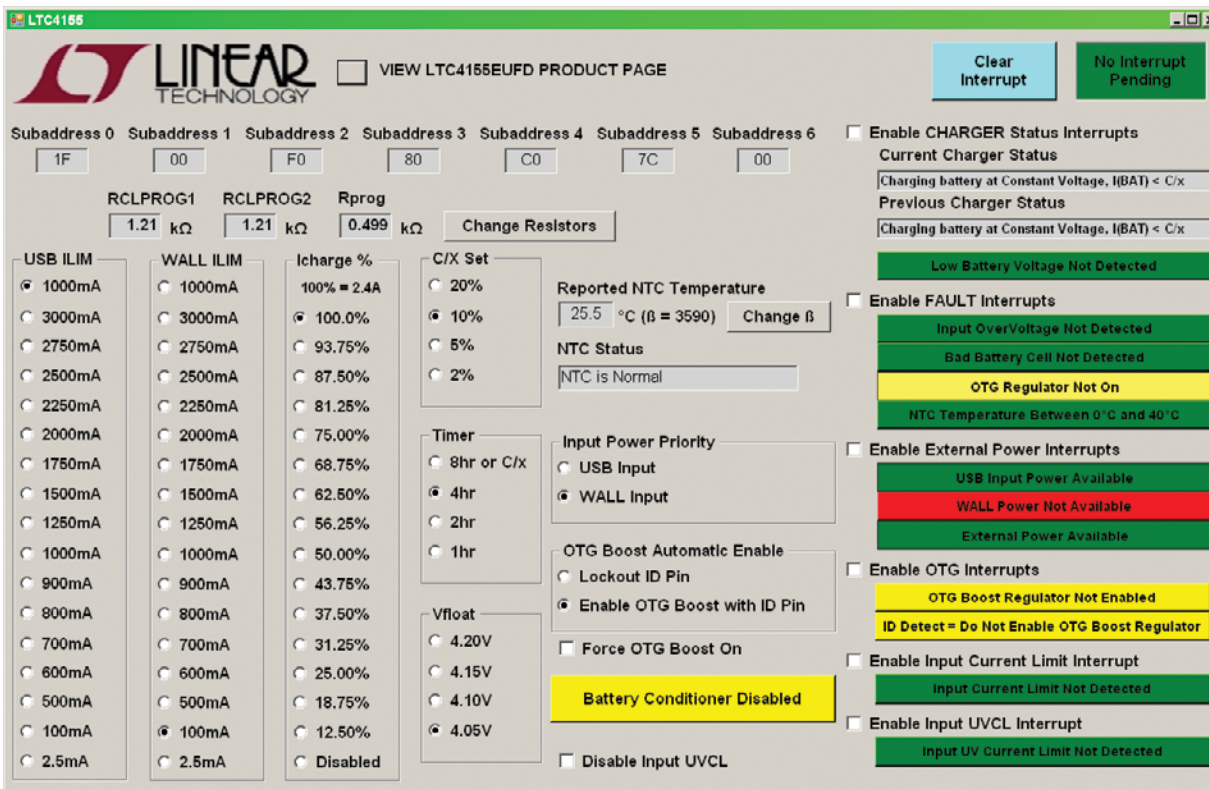
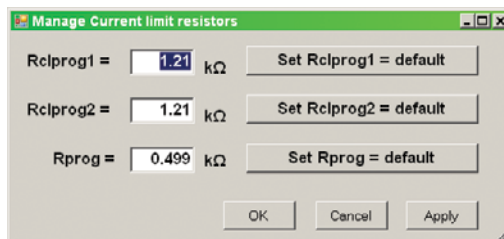
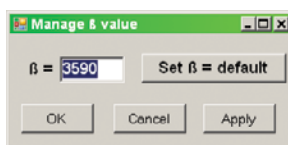

Figure 3. LTC4155 Main Form
Figure 4. Manage Current Limit Resistors Form
Figure 5. Manage β Value Form
2. Start the Linear Technology QuickEval™ program. Download and install the latest version of the QuickEval program from the following weblink: <http://www.linear.com/designtools/software/>. This program should automatically detect the presence of the LTC4155EUFd demo board (DC1674A-A) and activate the appropriate GUI, as seen in Figure 3.
The DC1674A-A GUI is composed of three forms, the LTC4155 form (Figure 3) that is brought up by the QuickEval program, the Manage Current Limit Resistors form (Figure 4), that is brought up by pressing the “Change Resistors” button on the LTC4155 form, and the Manage  $\beta$  Value form (Figure 5) that is brought up by pressing the “Change  $\beta$ ” button on the LTC4155 form.